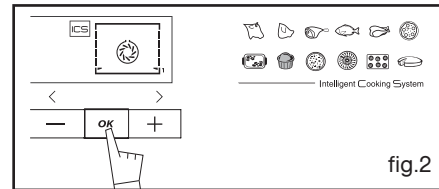

fig.2
- Confirm by pressing the **OK** button to start cooking (fig.2).